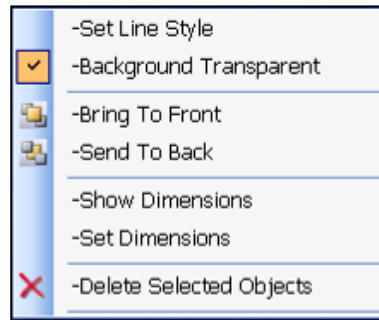

Figure 5 - Right-Click Menu when shape is "active"
- To change the shape’s line style and weight, right click on the shape. Select “Set Line Style” from the right-click menu. In the *Set Line Style* window, the desired Line Weight and Line Style can be selected, as well as the Line Color. Click **Accept** to save the changes. See Figures 5 and 6 for more detail.